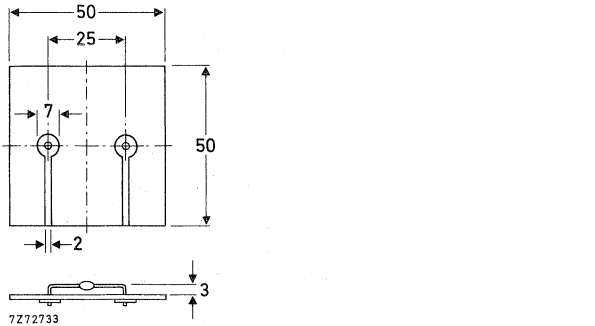

Fig. 2 Mounted on a printed-circuit board.
2. Thermal resistance from junction to ambient; device mounted on an 1,5 mm thick epoxy-glass printed-circuit board; Cu-thickness > 40  $\mu\text{m}$ ; Fig. 2 (see "Thermal model")